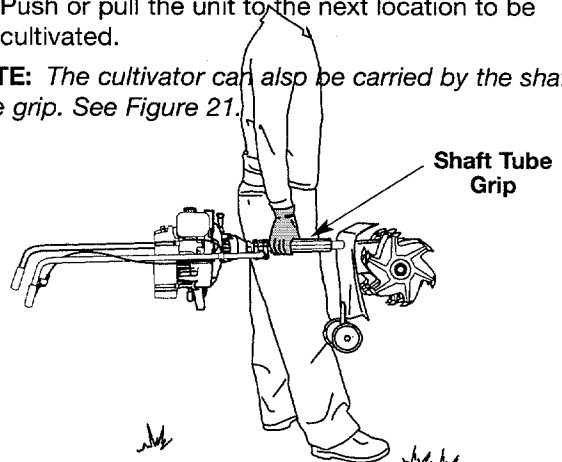

Figure 21
**NOTE:** The cultivator can also be carried by the shaft tube grip. See Figure 21.